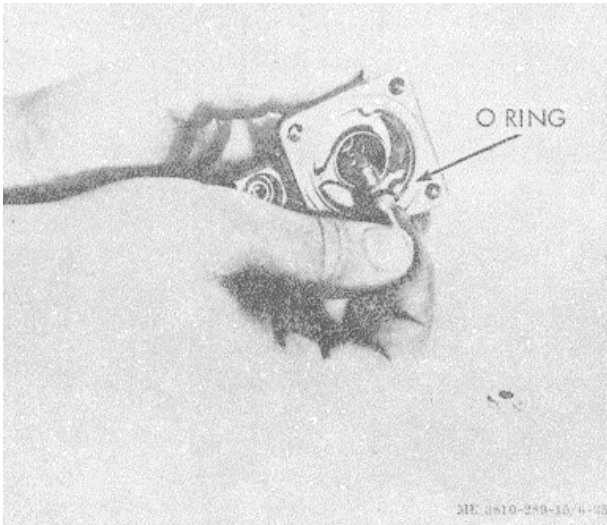

Figure 3-36. Override shaft installation.
(1) If removed, install a new O-ring on override shaft and coat with lubricant (fig. 3-36).